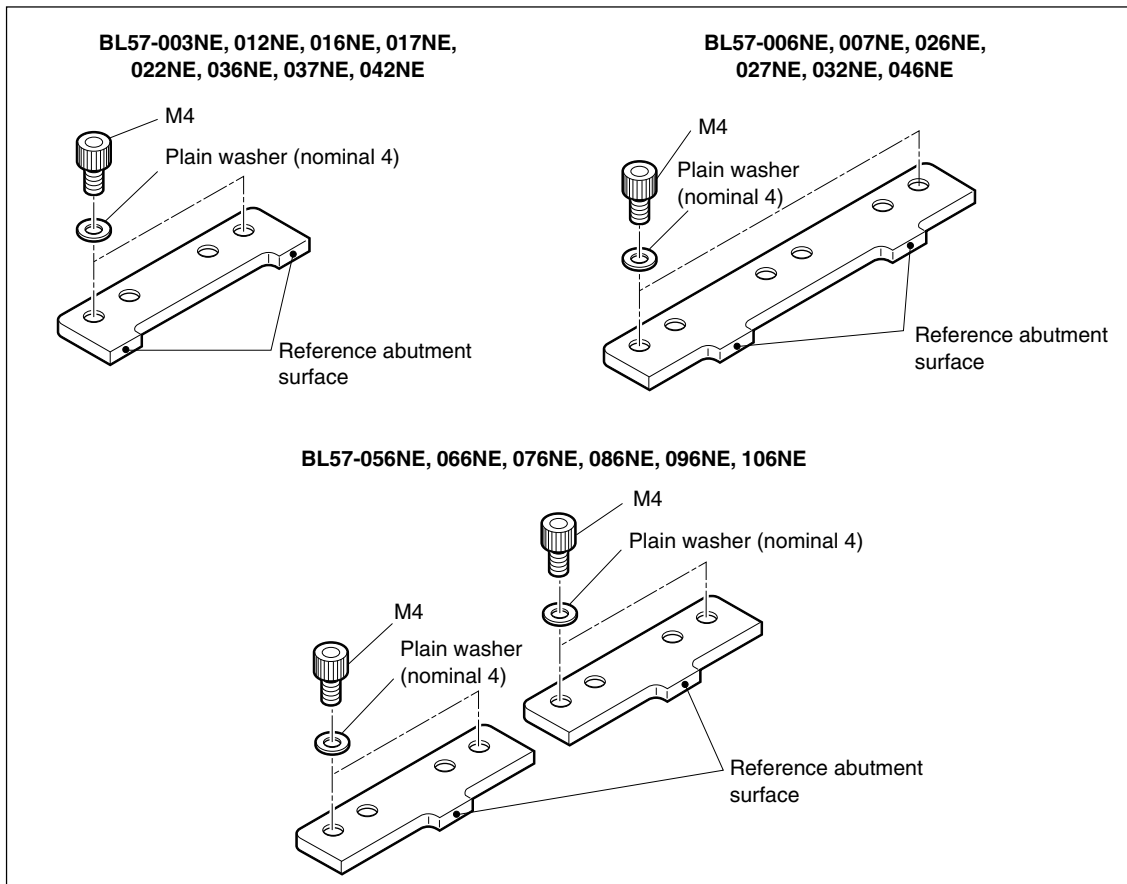

Fig. 3-5
- 4** Insert the scale between the scale clamp and the mounting surface while pressing the datum surface of the scale (see Fig. 3-5) lightly against the reference abutment surface (Note). Gradually and alternately tighten screws A and B of the scale clamp indicated in the figure. (Use only the left-side scale clamp for clamps with two screws, and use the center scale clamp for clamps with three screws.) (Final fastening torque: 1.4 N · m)